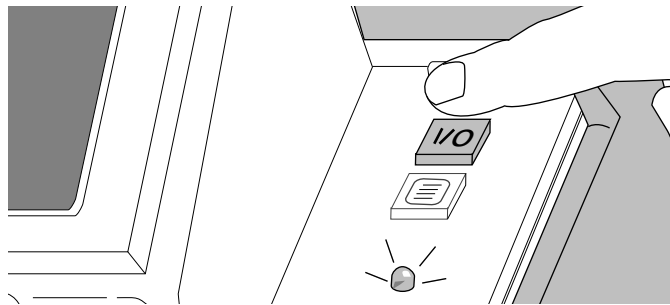

Figure 27
5.1 Turn on the set and check the Power LED for a low condition (flashing). Use the AC adapter if the LED is flashing (Figure 27).